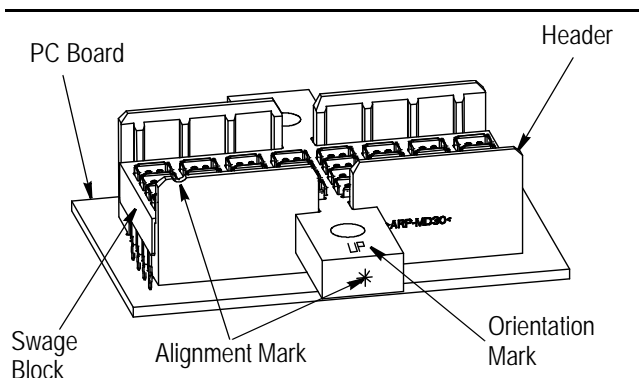

Figure 3
3. Place the swage block onto the header to be removed. Orient the swage block as shown in Figure 3.